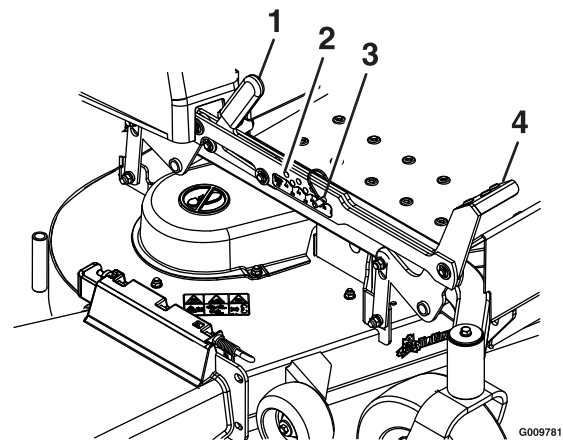

Figure 10
1. Raise the deck to the transport position (4.5 inch (114 mm) cut height) by pushing the foot actuated lever forward (Figure 10). The transport lever will automatically engage and will drop into place.